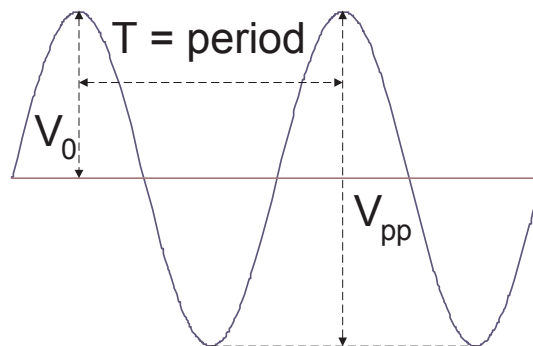

Figure 1.3: Sine-wave properties.
2. Sketch in your notebook the scope trace; be sure to include the scale settings. Be sure that your scope trace shows at least one full period of the sine wave, like Figure 1.3.